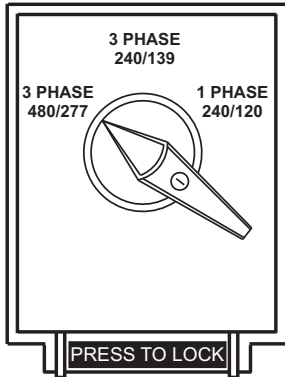

Figure 30. Voltage Selector Switch 3Ø-480/277V Position
1. Place the voltage selector switch in the 3Ø 480/277V position as shown in Figure 30.